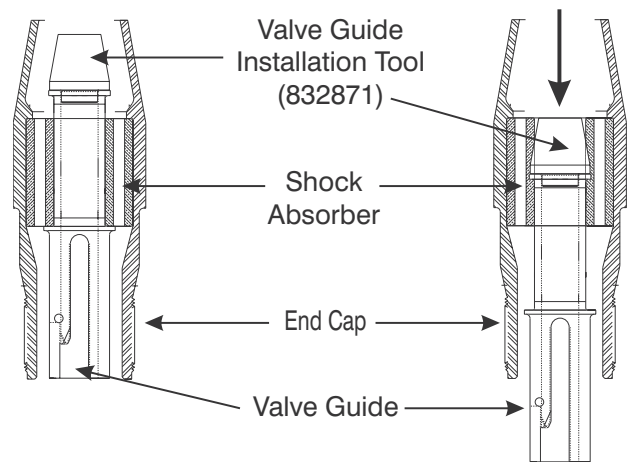

Figure 8-18. Press Out Valve Guide.
4. Press the Valve Guide from the Shock Absorber as illustrated in Figure 8-18. Once started from the Shock Absorber, the Valve Guide can be pulled free by hand.